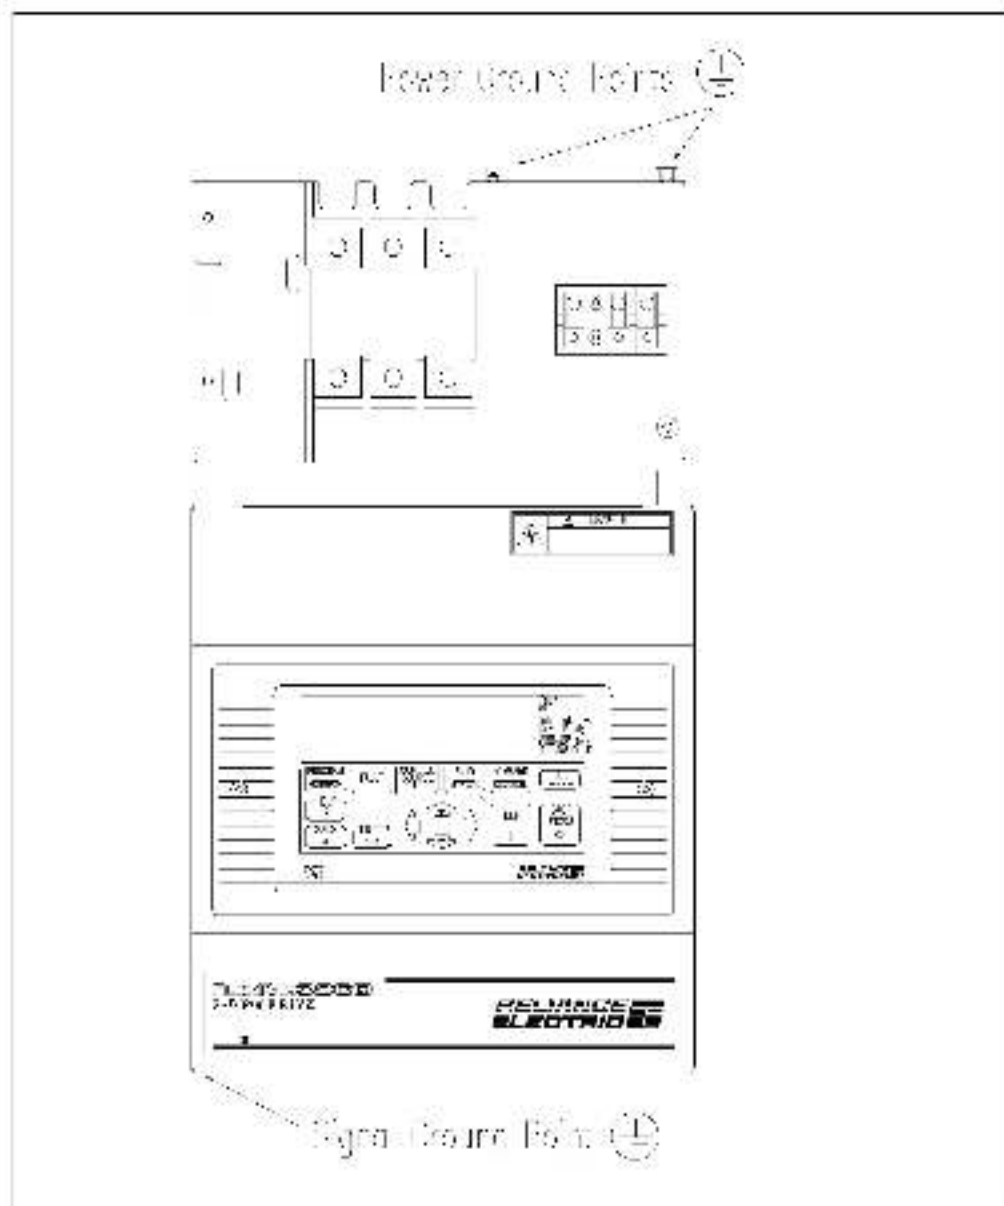

Figure 2-8 Drive Control and Power Ground Port Locations (1.5 to 30 HP @ 230 VAC / 5 to 60 HP @ 480 VAC / 110 Amp Rated Output)
- Step 1. Locate the drive ground points as shown in figures 2.8 through 2.13.